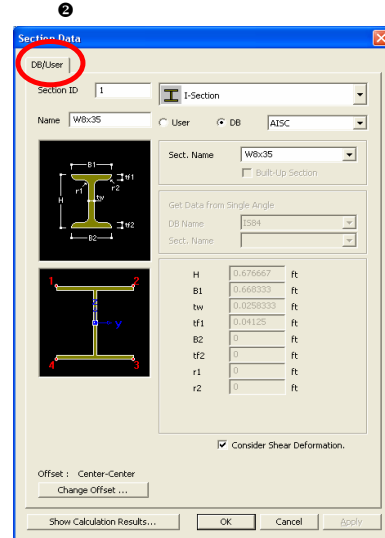

Figure 1.8 Section Data
9. Confirm the **DB/User** tab on the top of the **Section** dialog box (Fig.1.8– ❷).